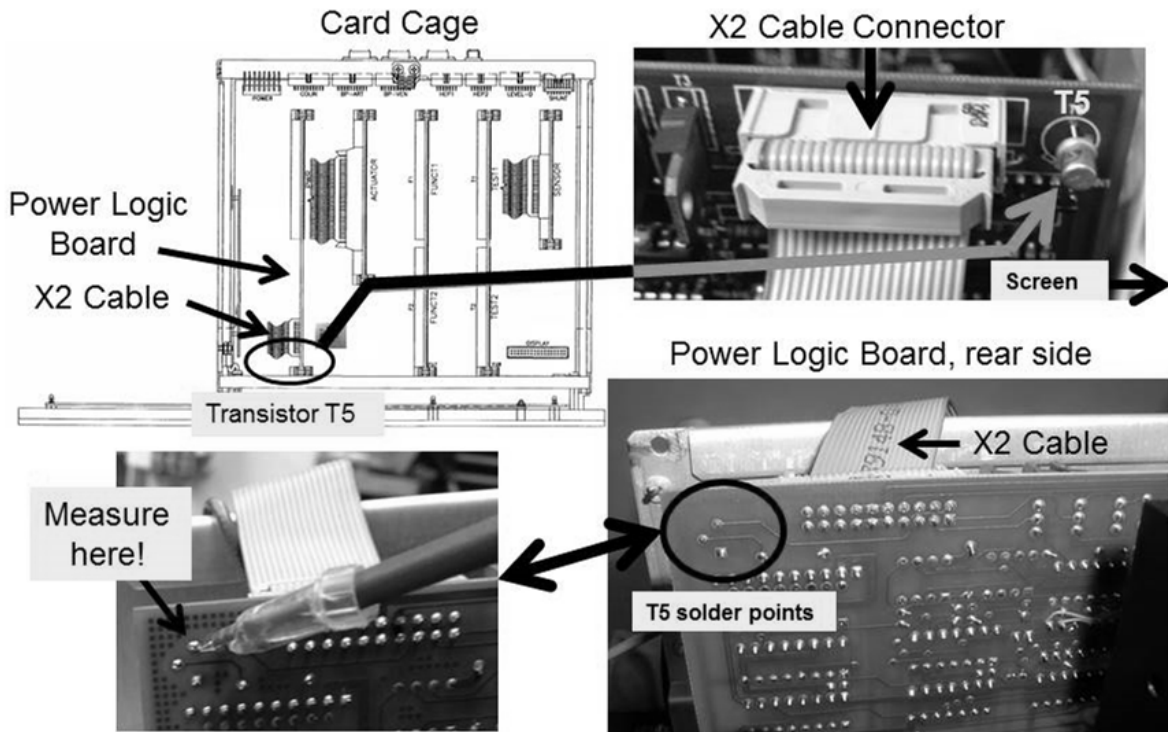

Figure 44 – Power Logic Board / Transistor T5
Measurement #2: Per Figure 44 (page 264), at **T5's TOP** pin. Good = less than 2.0 volts DC.
- c) Measure again at the Power Logic board's **T5** TOP pin. If necessary, refer to Figure 44 (page 264).